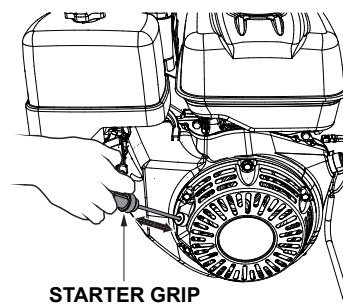

Figure 18. Starter Grip
5. Grasp the starter grip (Figure 18) and slowly pull it out. The resistance becomes the hardest at a certain position, corresponding to the compression point. Pull the starter grip briskly and smoothly for starting.